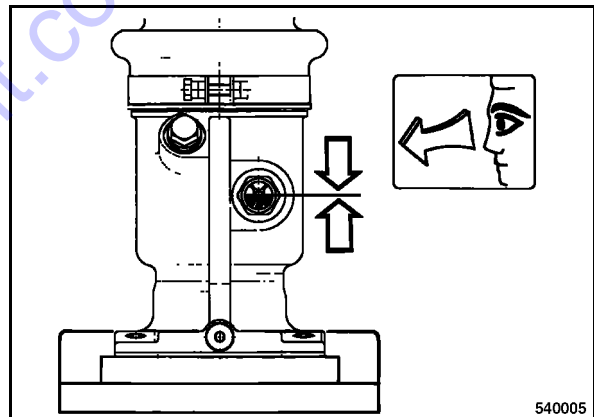

Fig. 70
- Clean the inspection glass (Fig. 70) and check the oil level.